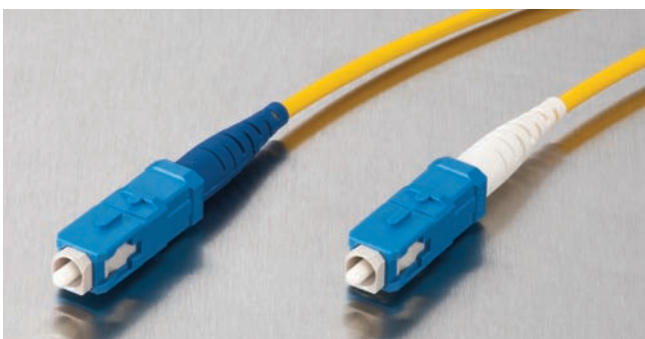

Figure 4.25 – UPC Connectors | Photo LAN620
- UPC and APC connectors available (Figure 4.25 and 4.26)